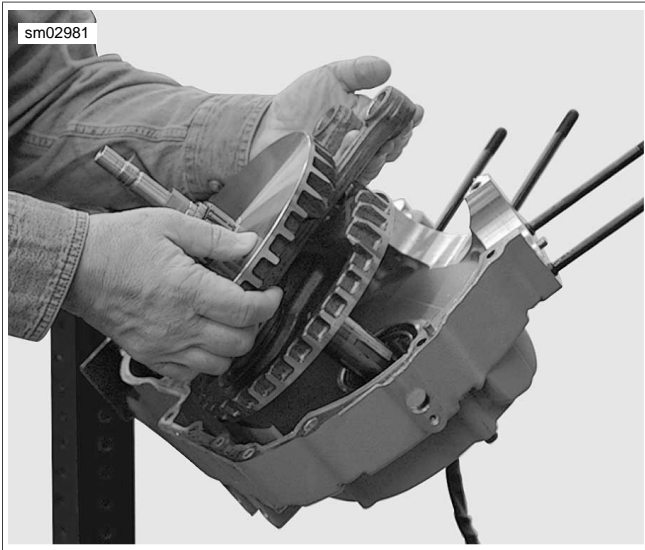

Figure 3-119. Removing Flywheels from Left Crankcase
1. See Figure 3-119. Remove the flywheel assembly from left crankcase half.